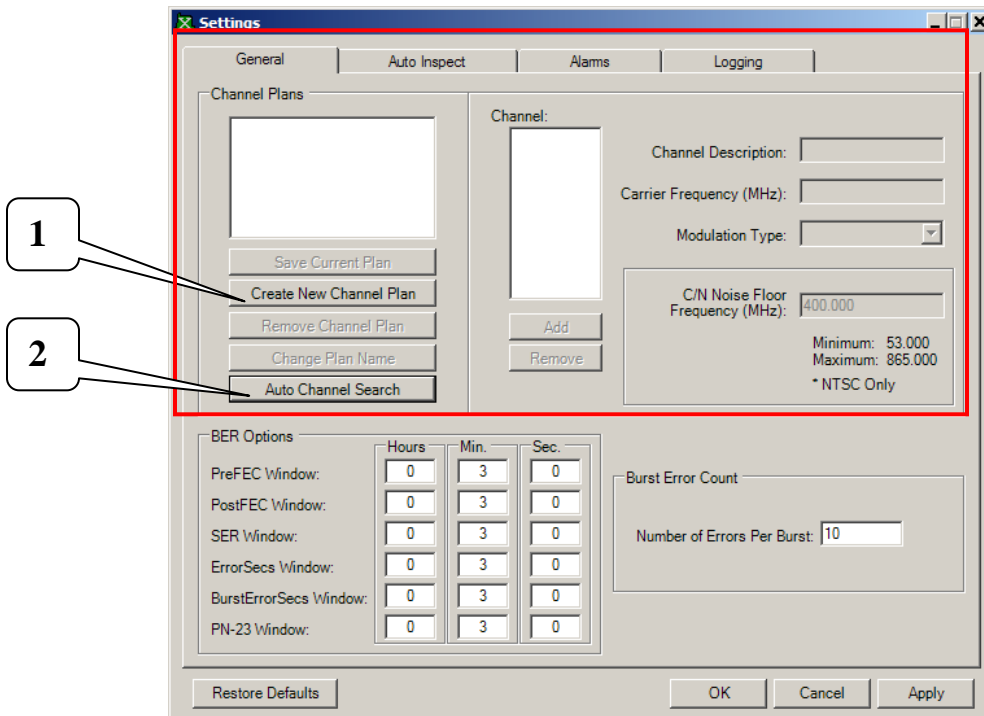

Figure 14. Creating a Channel Plan 2
4. Digital Bit Error Display: The Digital Bit Error Display within the system monitor tab provides bit error statistics that are averaged (or counted) over a specified time window. Defining the window size was described in the previous section (see Figure 14). This section is valid for 8-VSB and QAM measurements, but will be grayed out when measuring an NTSC channel. Pass (green) / fail (red) / warn (yellow) color coded threshold indicators provide for quick diagnosis. The thresholds are user definable.